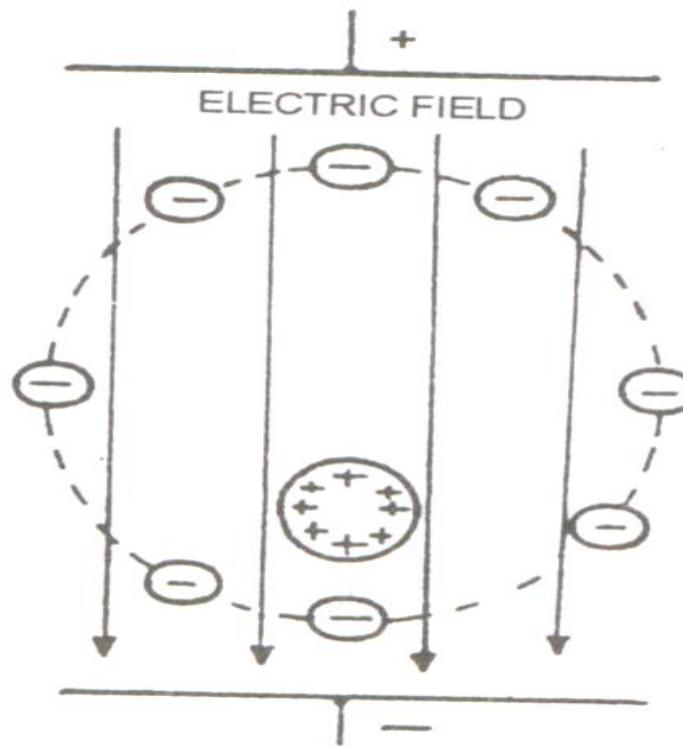

Fig.4 **POLARIZED**
- The effective centers of positive and negative charges are no longer coincident i.e., POLARIZED as shown in fig. 4.